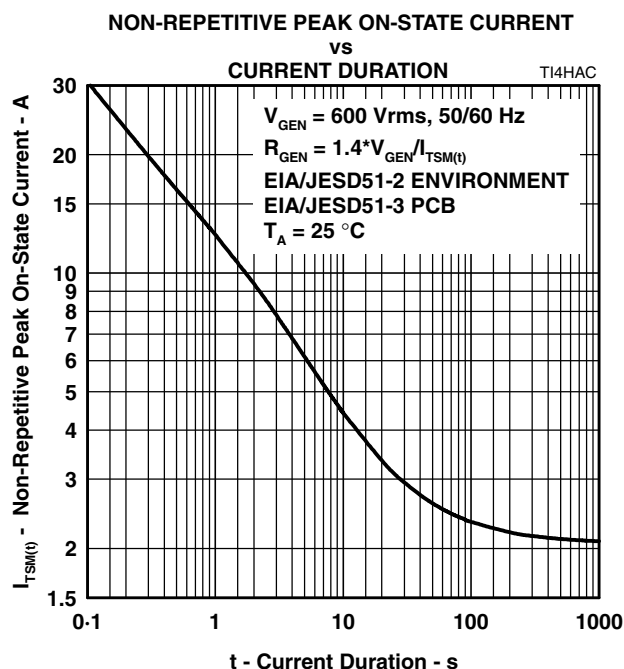

Figure 8.
5. EIA/JESD51-2 environment and EIA/JESD51-3 PCB with standard footprint dimensions connected with 5 A rated printed wiring track widths. See Figure 8 for the current ratings at other durations. Derate current values at $-0.61\% / ^\circ\text{C}$ for ambient temperatures above 25°C .
The protector can withstand currents applied for times not exceeding those shown in Figure 8. Currents that exceed these times must be terminated or reduced to avoid protector failure. Fuses, PTC (Positive Temperature Coefficient) resistors and fusible resistors are overcurrent protection devices which can be used to reduce the current flow. Protective fuses may range from a few hundred milliamperes to one ampere. In some cases, it may be necessary to add some extra series resistance to prevent the fuse opening during impulse testing. The current versus time characteristic of the overcurrent protector must be below the line shown in Figure 8. In some cases, there may be a further time limit imposed by the test standard (e.g. UL 1459 wiring simulator failure).